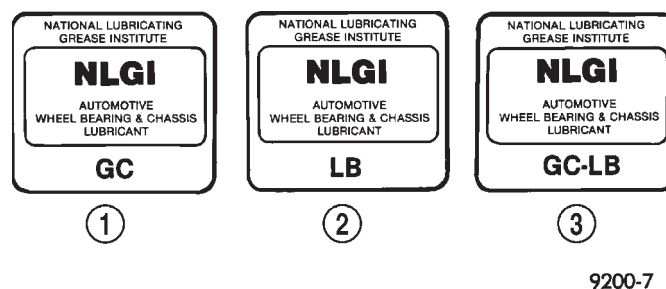

Fig. 2 NLGI Symbol
- National Lubricating Grease Institute (NLGI) (Fig. 2)
Lubricating grease is rated for quality and usage by the NLGI. All approved products have the NLGI symbol (Fig. 2) on the label. At the bottom NLGI symbol is the usage and quality identification letters. Wheel bearing lubricant is identified by the letter "G". Chassis lubricant is identified by the latter "L". The letter following the usage letter indicates the quality of the lubricant. The following symbols indicate the highest quality.